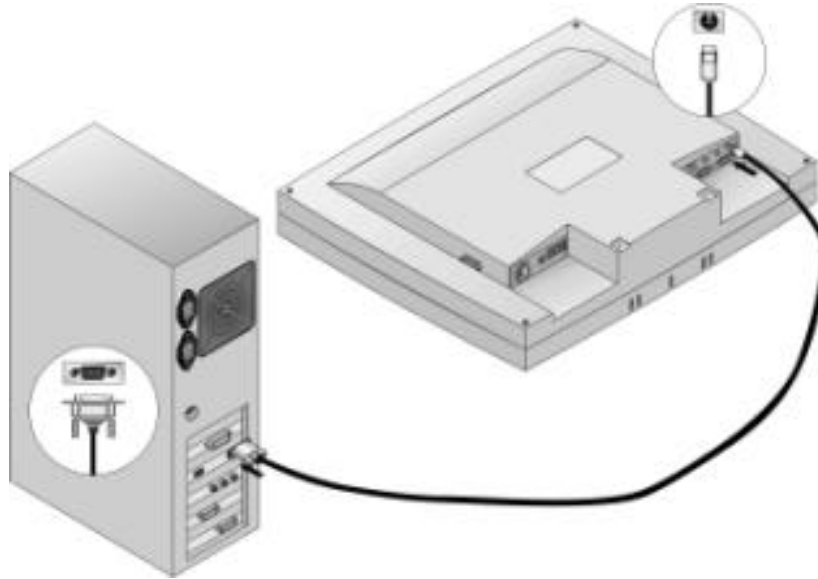

Figure 1-7: Connecting the Optional Touchscreen Cable
1. Connect the PS/2 connector end of the PS/2 to RS-232 cable provided with the optional touchscreen package to the PS/2 mini-DIN port at the back of the LCD monitor. Please refer to *Figure 1-7*.
2. Connect the D-sub 9-pin RS-232 connector end of the PS/2 to RS-232 cable provided with the optional touchscreen package to the 9-pin RS-232 serial port at the back of your PC. Please refer to *Figure 1-7*.